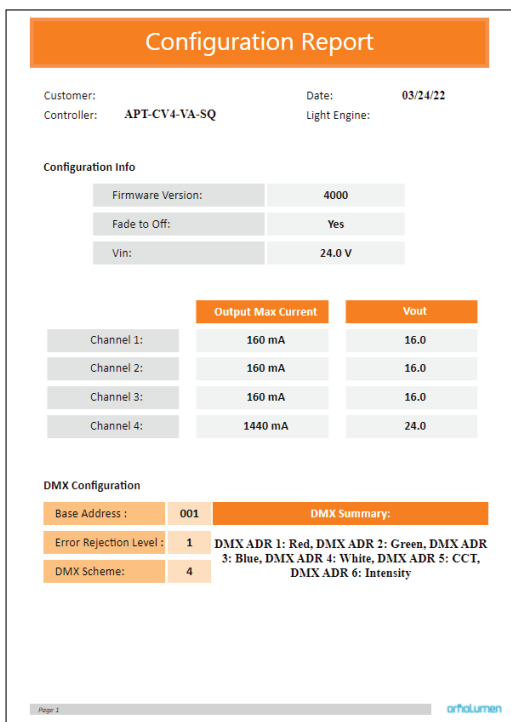

Figure 19: Example of the first page of a generated report
- 5 Click **Generate Report**, the default web browser will open and display a preview of the print (shown in Figures 19 & 20).